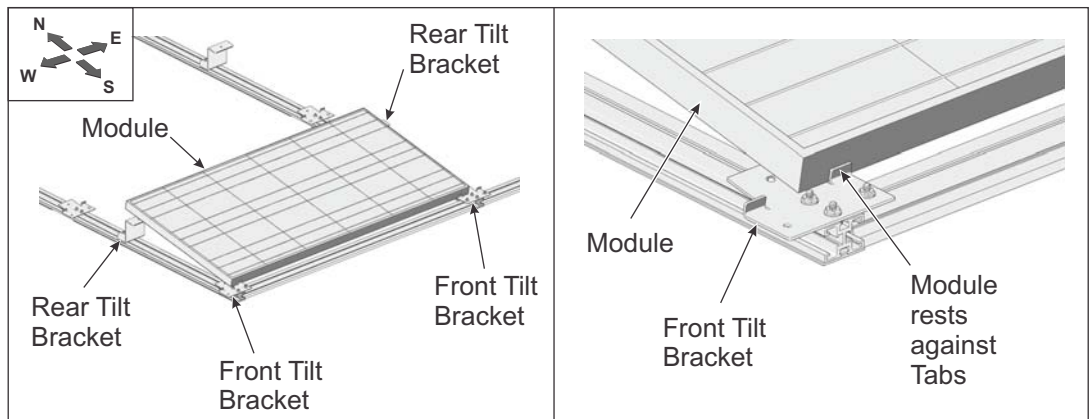

Figure 14-1: Installing PV Modules onto Tilt Brackets
- G. Position PV Module onto the southwest-most Front Tilt Brackets. Allow Module frame to rest against the tabs of the Front Tilt Brackets. Lower the rear of the Module and rest it on top of the Rear Module Tilt Brackets. (See Figure 14-1)